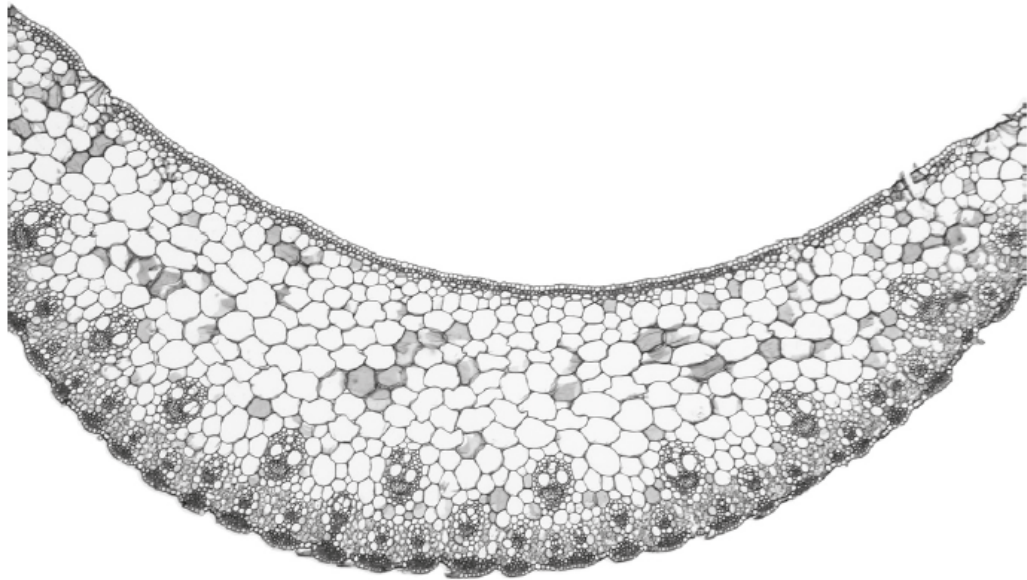
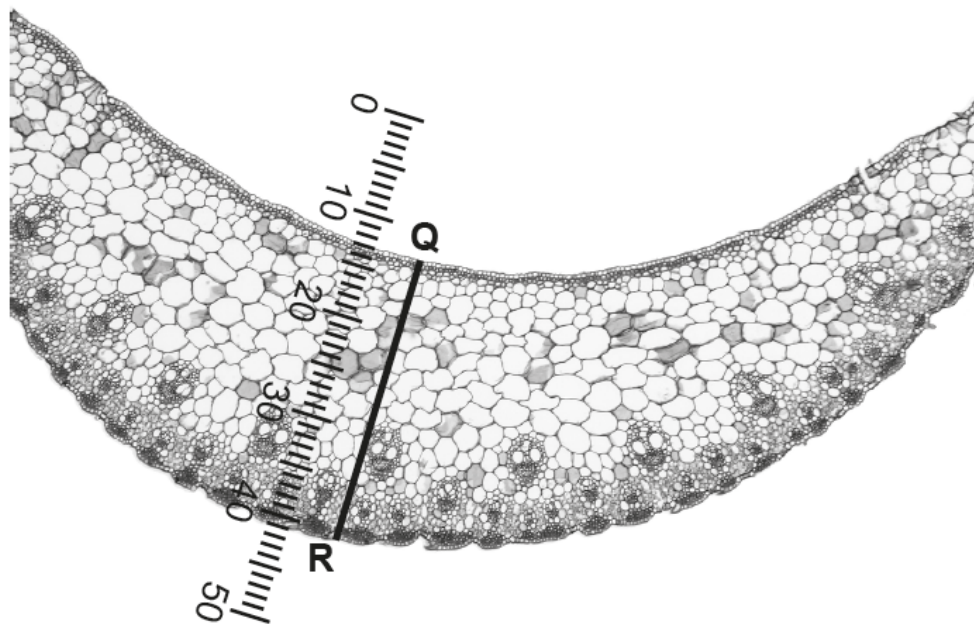

Fig. 2.2
Fig. 2.3
- (c) (i) Fig. 2.2 is a photomicrograph of part of a stained transverse central section of a leaf from a different plant.
Record in the space below **two** observable differences (other than size and reference to bulliform cells) between the specimen on slide **R1** and the leaf in Fig. 2.2.
R: any reference made to stomata – not clear in Fig 2.2
- (ii) Fig. 2.3 is the same photomicrograph as that shown in Fig. 2.2.
An eyepiece graticule scale is shown in Fig. 2.3.
Use the calibration of the eyepiece graticule to calculate the actual width of the section in Fig. 2.3 shown by the line **Q–R**.